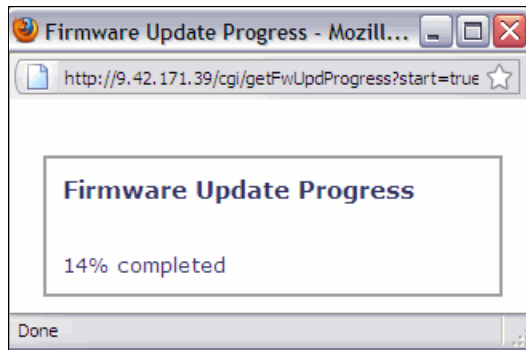

Figure 18-10 SAS Connectivity Module - Installation confirmation
4. Click **Install** to install the new file. A firmware update progress window opens as shown in Figure 18-10.